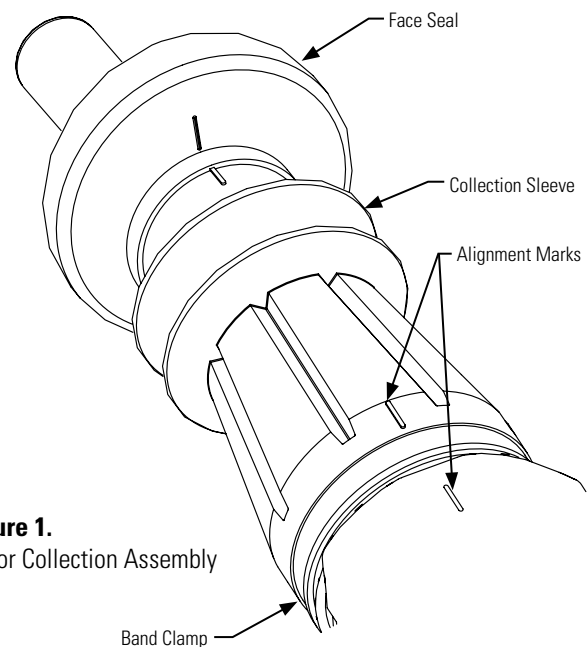

Figure 1.
(See Figure 1)
1. Place the large band clamp on the collection sleeve. (See Figure 1)
5. Align and center all alignment marks on top of the vapor collection kit and nozzle scuff. (See Figure 1)
7. Tighten collection band clamp until collection sleeve will not rotate. (See Figure 1)